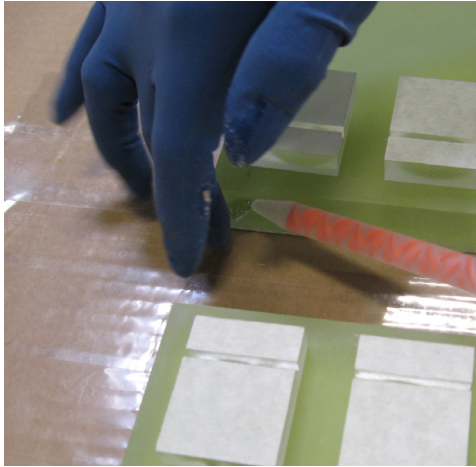

Figure 3
6. Place Chroma panels approximately 2" (5 cm) apart to prep for adhesive application. To use the Plexus Acrybond adhesive, first load the cartridge into the dispense gun, take care to always keep the cartridge in a vertical position while doing so. Next "burp" the cartridge: while still pointing the gun upwards squeeze out 1-2 oz of adhesive until no more air bubbles are seen. Clean nozzle tip area with a dry rag. Attach and secure the mixing nozzle to the cartridge with the retaining nut. Run mixed product through the nozzle and "purge" a small amount as waste. (approximately a quarter-sized puddle) Then apply a liberal amount of adhesive on both sides of the joint. Spread the adhesive evenly with your finger. (Use nitrile gloves) The spreading of the adhesive is critical to ensure air bubbles are minimized in the finished seam. (See Figure 3)